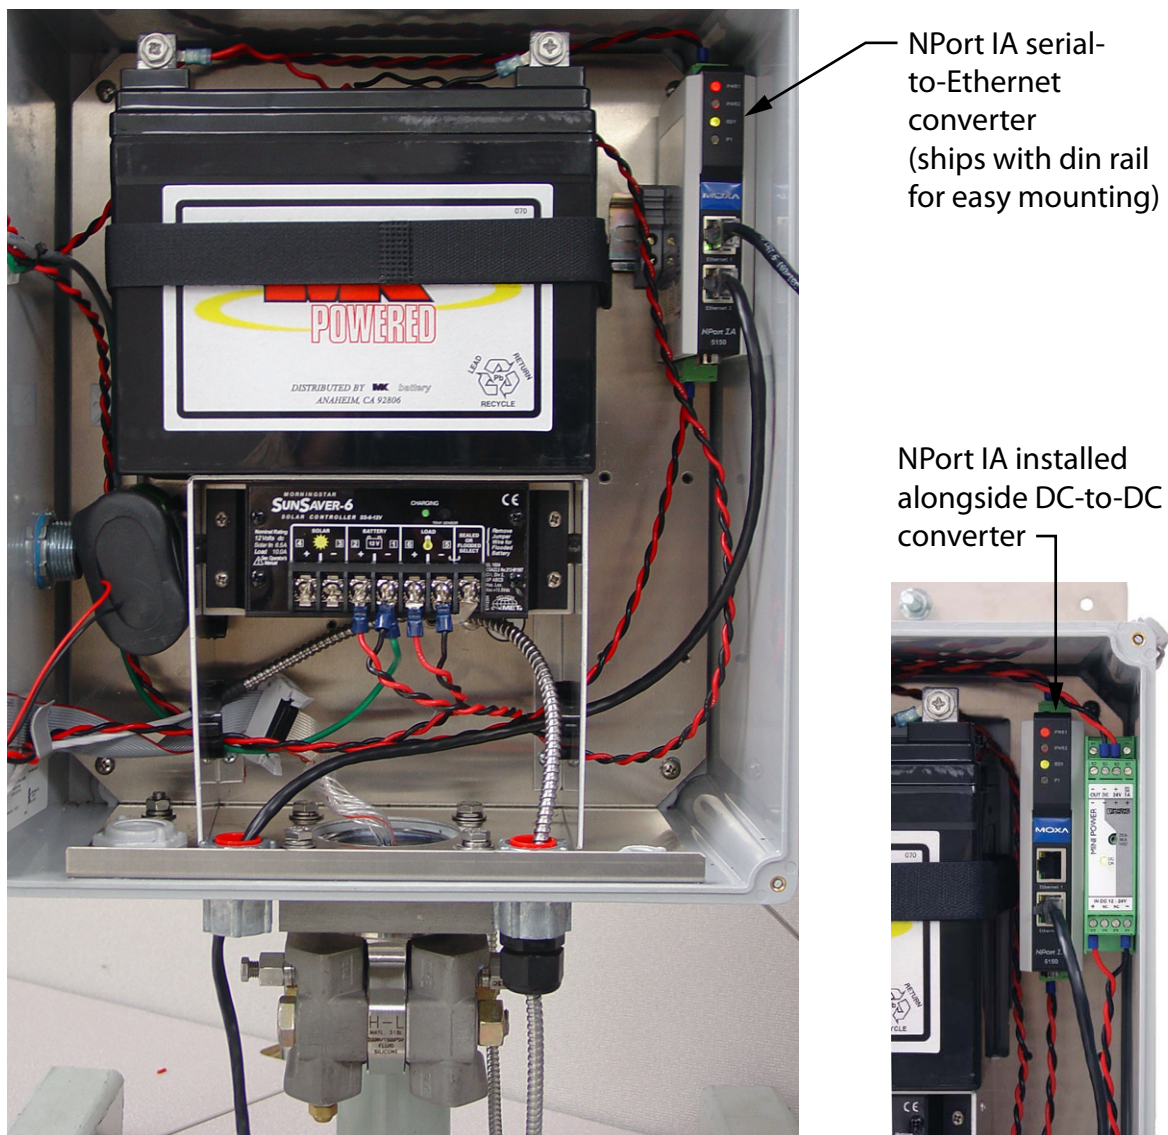

Figure B.8—NPort IA5150-T serial device option
1. Attach a short length of DIN rail to the enclosure backplate as shown in Figure B.8. If the Scanner 2200 has a DC-to-DC converter option installed, the DIN rail will already be in place.